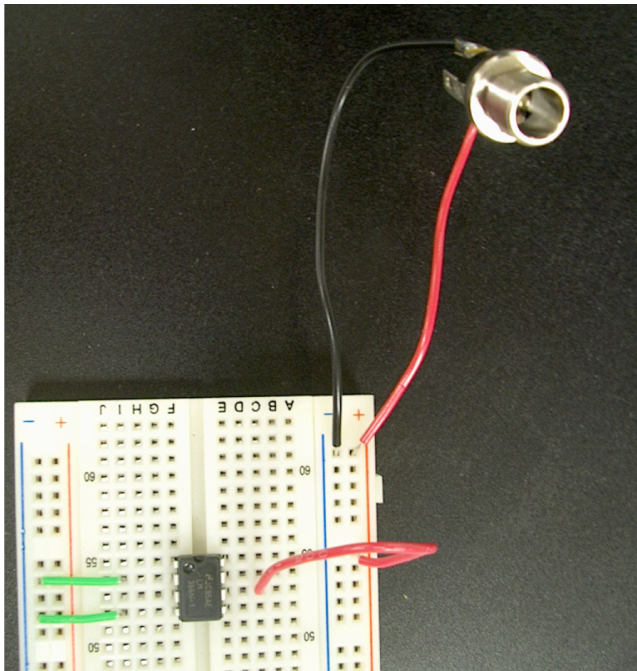
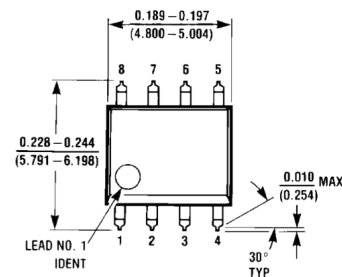

Figure A2. Step two of amplifier assembly
Figure A3. Pin numbering system.
1. Prepare the power jack by soldering two wires to it. Solder a black wire to the center lug, and a red wire to the lug on the right when viewing the jack from above (upper right hand corner of Figure A2).
2. Insert the amplifier integrated circuit (IC) into the breadboard such that it straddles the center trough, and each pin is in a separate row.
- a. The small circle embossed on the chip in the upper right-hand corner indicates the location of pin 1. Figure A3 shows the pin numbering system.